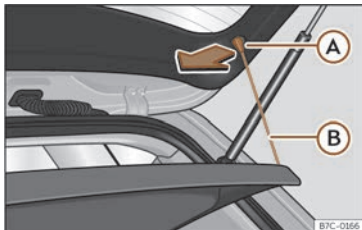

Fig. 173 In the boot: removing and installing the shelf.
- Detach the cord loops >>> **Fig. 173** (B) from their hooks (A).
- Attach the securing straps >>> **Fig. 173** (B) onto the rear lid.